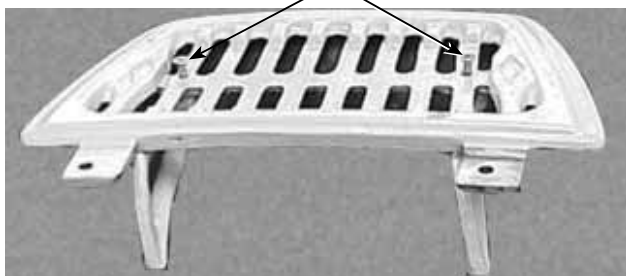

Figure 42 - Assemble Shelves to Brackets
2. Install decorative brackets to both warming shelves using the screws provided (see **Figure 42**).